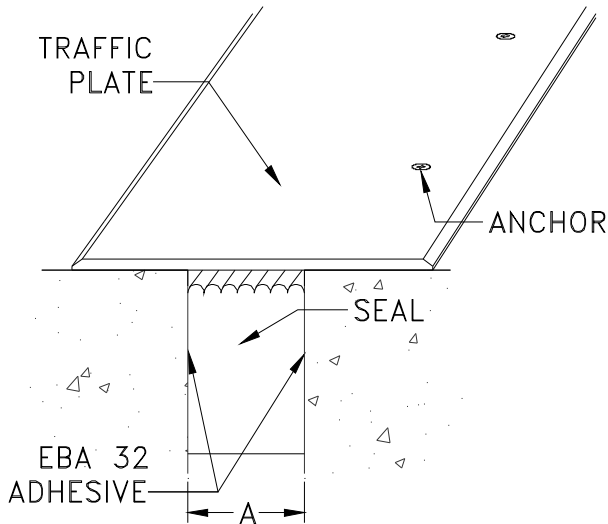

Figure 12
- STEP 13.** If a traffic plate is purchased and provided with the system, install the traffic plate at this time using the fasteners provided by the factory (see Figure 12).